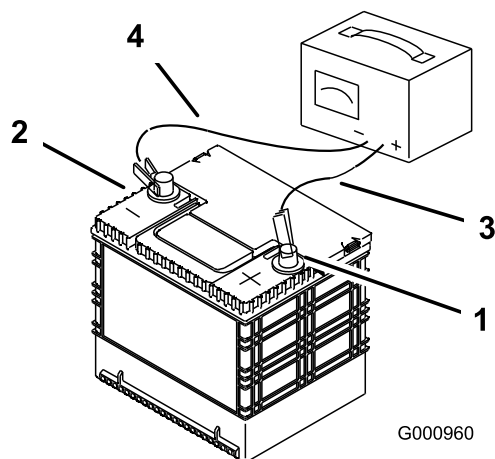

Figure 56
2. When the battery is fully charged, unplug the charger from the electrical outlet, then disconnect the charger leads from the battery posts (Figure 56).